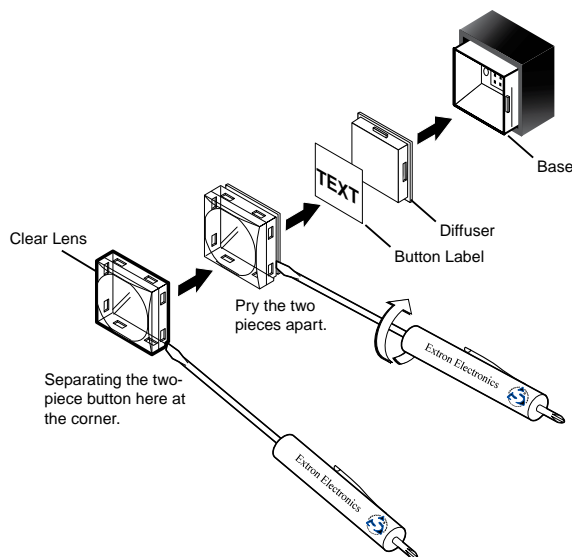

Figure 7-4 — Illuminated button label replacement
1. Remove the button from the Fiber Matrix; use a small, flat bladed screwdriver such as an Extron Tweeker to gently pry a button out from the front panel (figure 7-4).